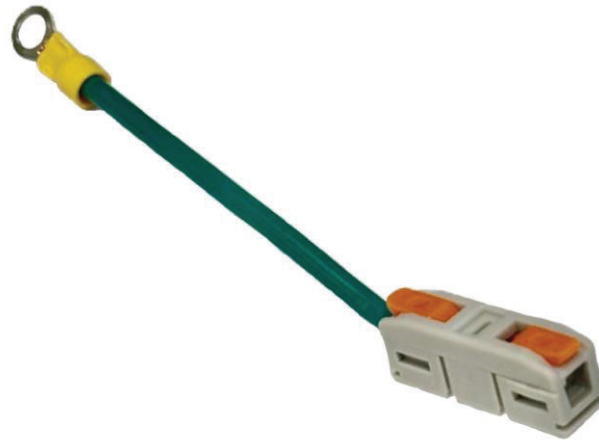

Figure 7 The green grounding wire with the lever wire connector.
- Insert the Ground lead into the lever wire connector that is attached to the green grounding wire on a din rail. Clamp the lever down (see Figure 7).